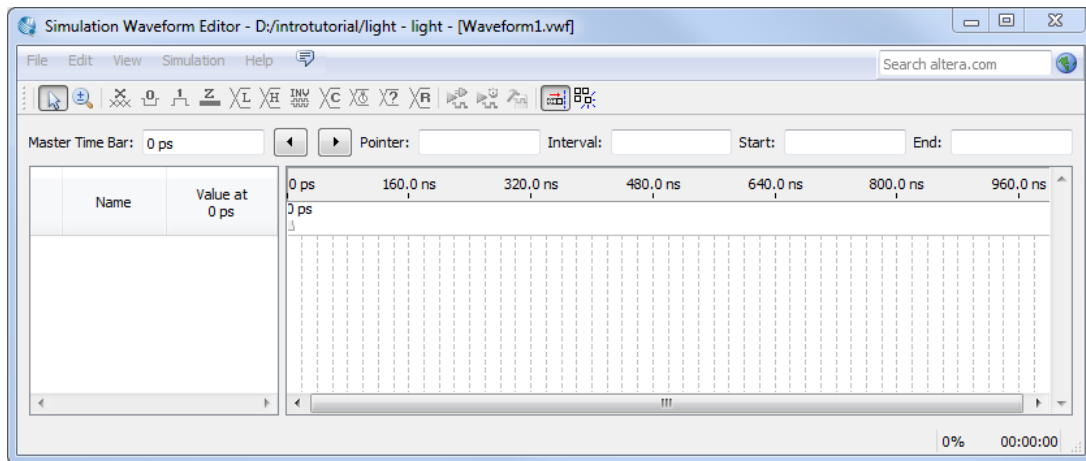
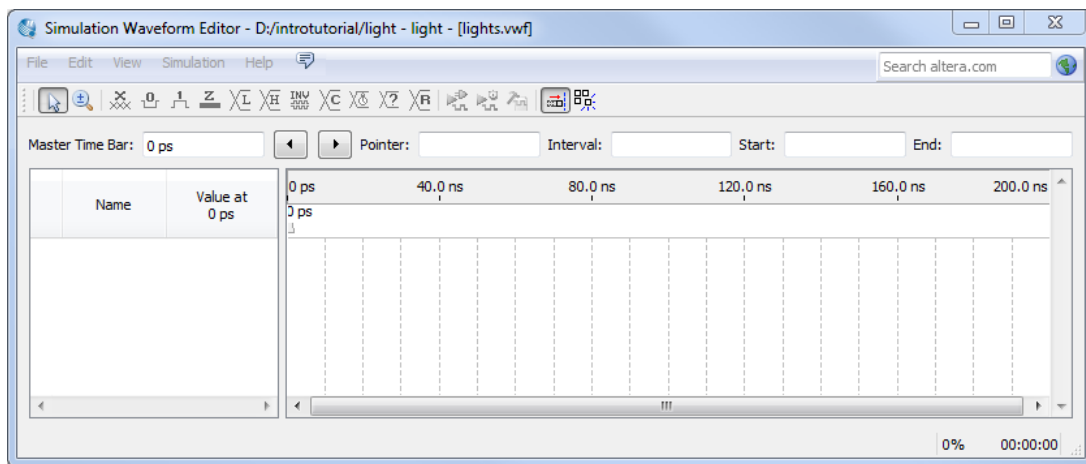

Figure 28. The Waveform Editor window.
Figure 29. The augmented Waveform Editor window.
2. The Simulation Waveform Editor window is depicted in Figure 28. Save the file under the name *light.vwf*; note that this changes the name in the displayed window. Set the desired simulation to run from 0 to 200 ns by selecting **Edit > Set End Time** and entering 200 ns in the dialog box that pops up. Selecting **View > Fit in Window** displays the entire simulation range of 0 to 200 ns in the window, as shown in Figure 29. You may wish to resize the window to its maximum size.